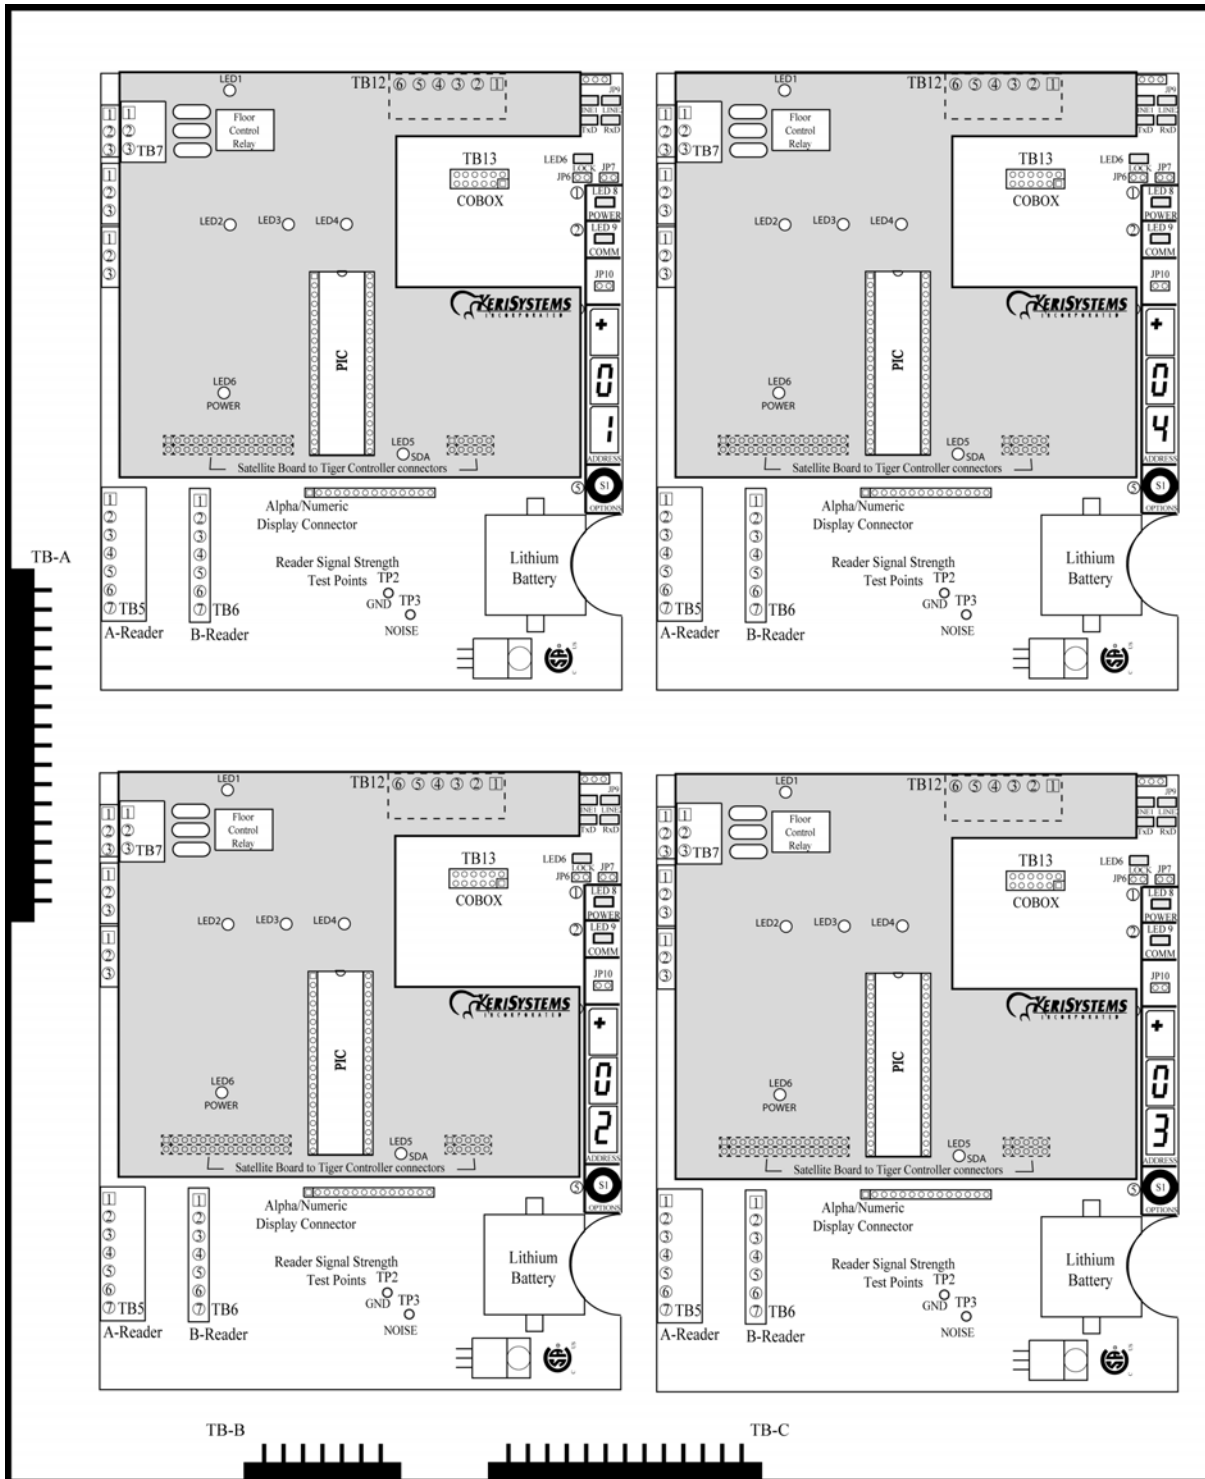

Figure 4: The LC-508P Elevator Control Panel
- Refer to Figure 4 on page 9 when reviewing the information throughout Section 5.3 beginning on page 15.